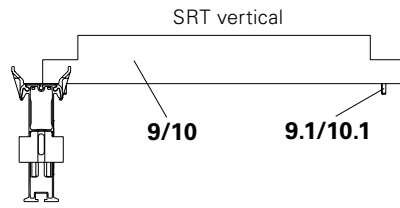
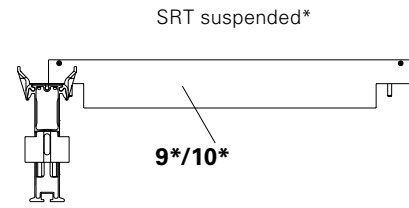

Fig. A5.01
Fig. A5.02
Install vertically (Fig. A5.01) or suspended. (Fig. A5.02)
- to the Main Beam SLT in a longitudinal direction. (Fig. A5.01 + A5.02)